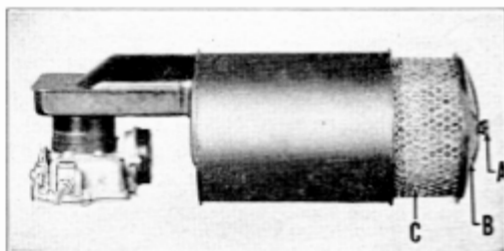

Figure 17
1. Remove wing nut (A) and lift off cover (B) (Figure 17) and remove gauze unit (C).